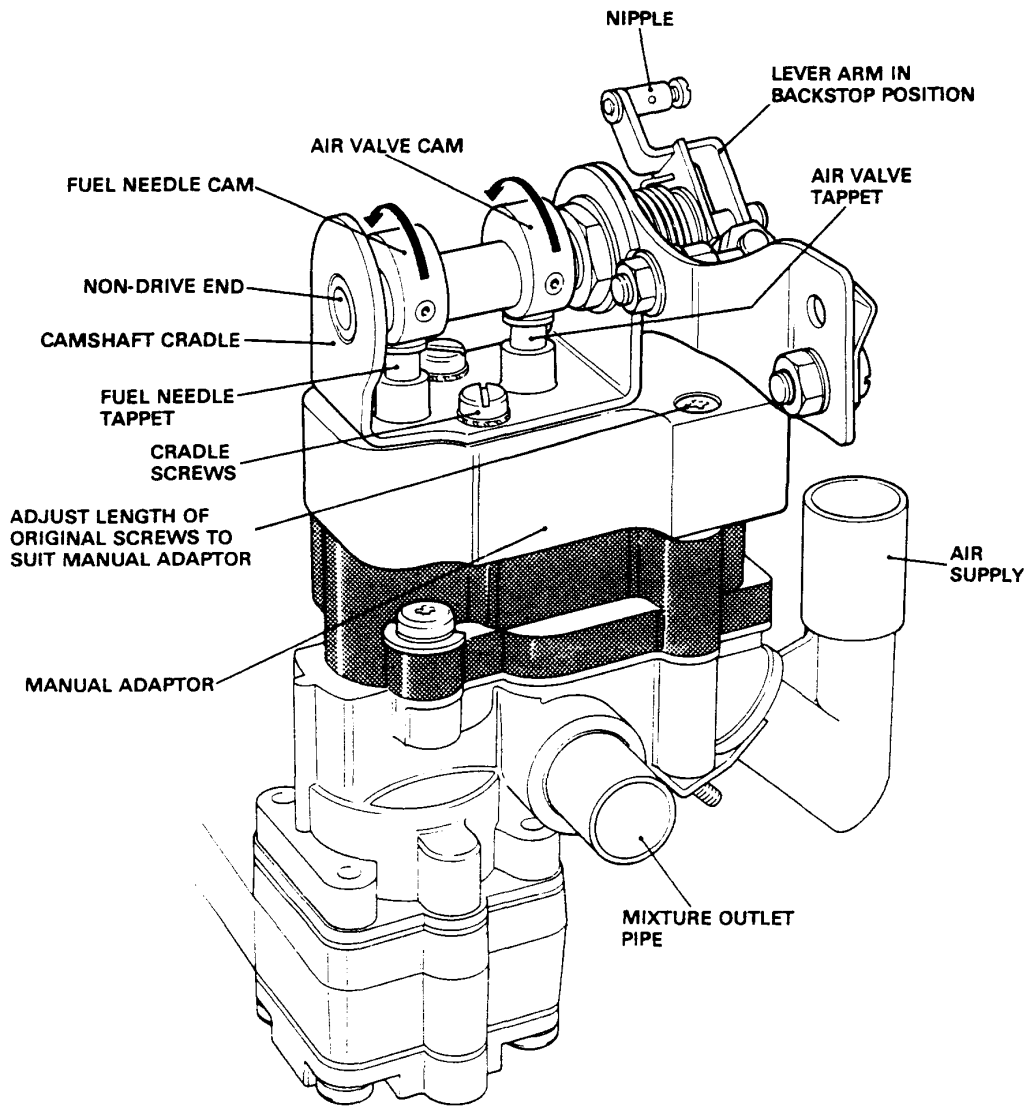

FIG 4 FITTING AND SETTING MANUAL ADPATOR
- (a) See 2.3 and follow instructions a) to g), referring to Fig. 4. Owing to the partially dismantled state of the ASU, the fuel needle will not be supported by the spnng loaded diaphragm and hence not rise/fall under influence of cam. In all other respects, the above instructions apply, or both AED and ASU.